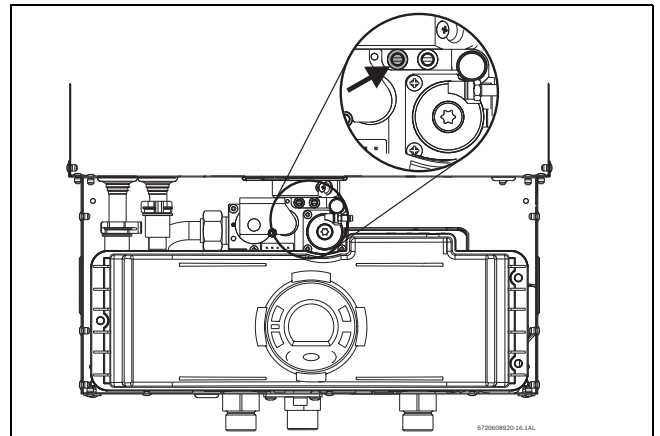

Fig. 47 Gas pressure test port (left tapping)
- ▶ Remove front cover and locate inlet gas pressure test port (see Fig. 47).